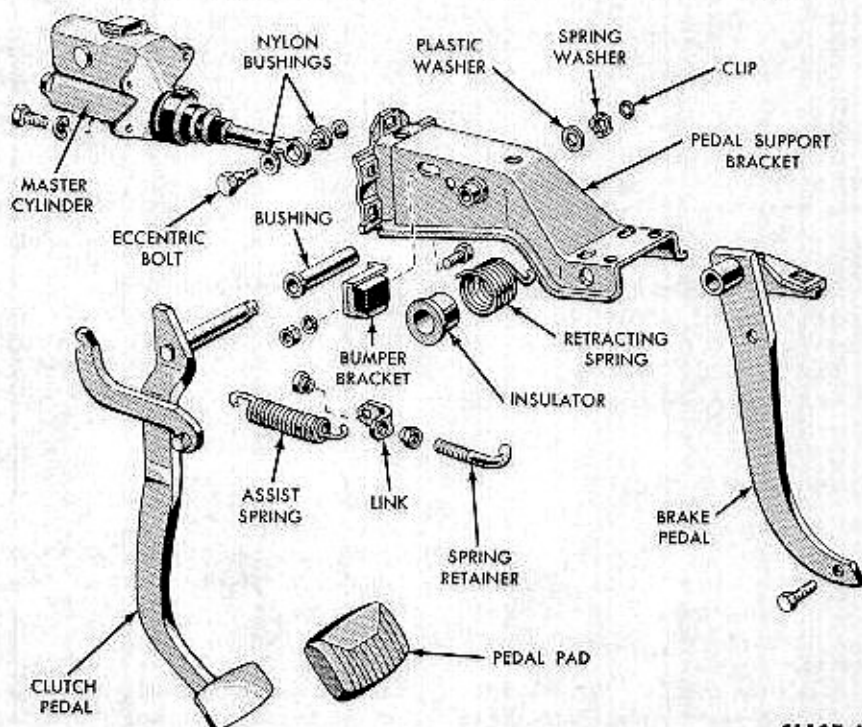

FIG. 3—Clutch Pedal Mounting Details
1. Measure the total travel of the pedal. If the travel is less than specification, move the clutch pedal bumper and bracket (Fig. 3) up or down until the travel is within these limits.
2. With the clutch pedal against its bumper (pedal released), measure the distance between the assist spring eye centers (Fig. 3). If this distance is not within specification, adjust the retainer (Fig. 3).